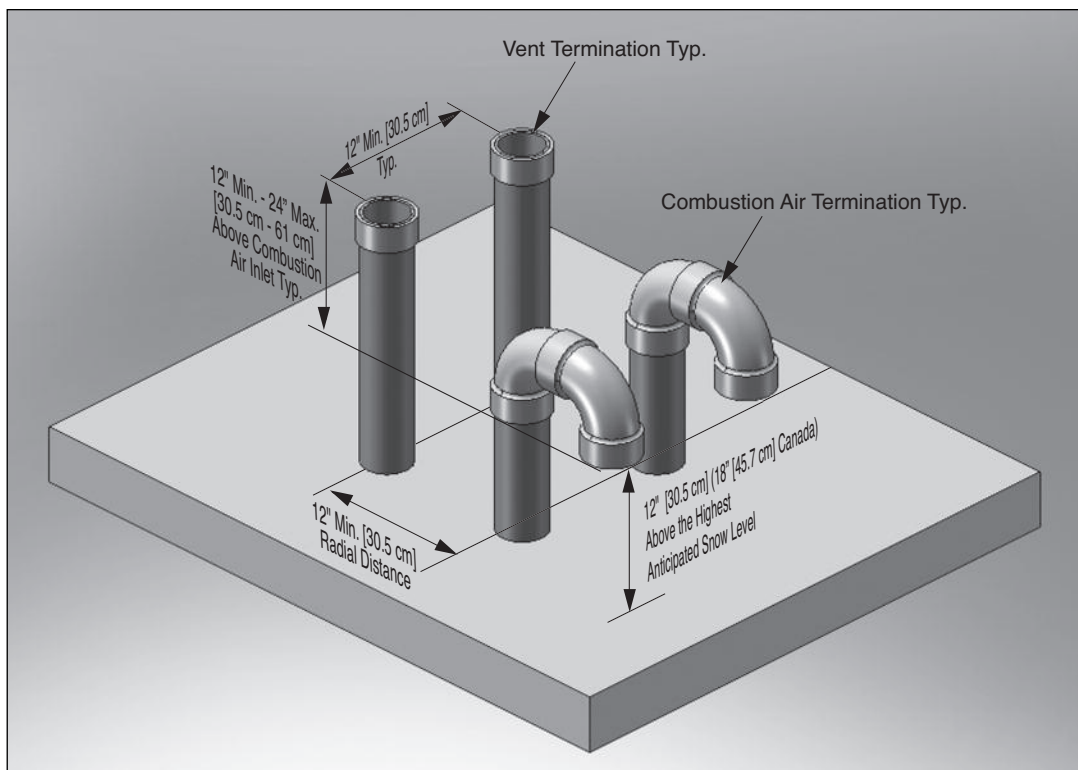

Fig. 5: Direct Vent - Vertical Termination of Multiple Boilers
2. The roof penetration of the vent and combustion air piping should be such that the combustion air inlet is a minimum 12" [30.5 cm] from the adjacent vent pipe of the other boiler for installations in the U.S. as shown in Fig. 5 on page 16. For installations in Canada, provide clearances as required by CAN/CSA B149.1.